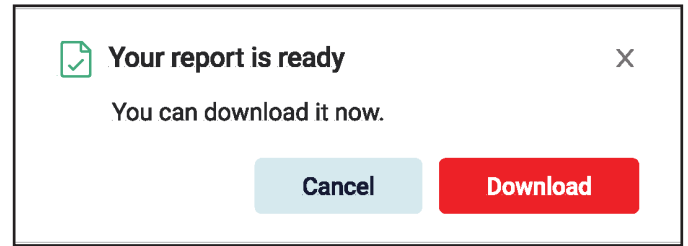

Figure 70. Download Access
5. After “Generate report” button is pressed, a pop-up message will appear indicating when the report is ready to download. See **Figure 70**.